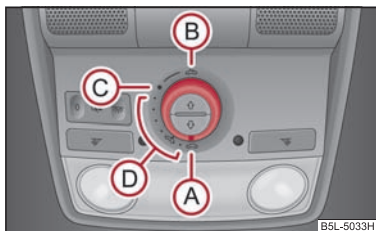

Fig. 34 Control dial for the panoramic sliding roof
The panoramic sliding roof with sun screen can only be operated with the control dial when the ignition is switched on ⇒ page 50, fig. 34. The control dial has several positions. ▶
- Turn the switch to position **C** ⇒ fig. 34.
- Turn the switch to position **A** ⇒ fig. 34.